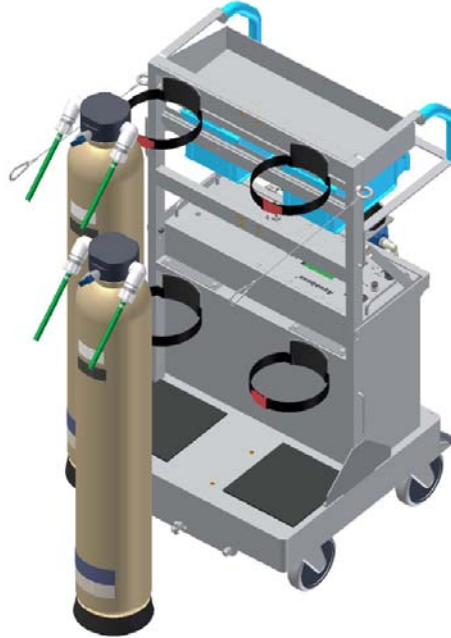

Figure 2 – Remove Carbon Tanks
1. Open quick connects from carbon tank inlet / outlets and disconnect tubing from the carbon tanks. Keep in mind that inlet and outlet of the carbon bottles are coded. Open Velcro[®] straps and remove carbon tanks from the rubber pads. Remove rubber pads. (see Figure 2)